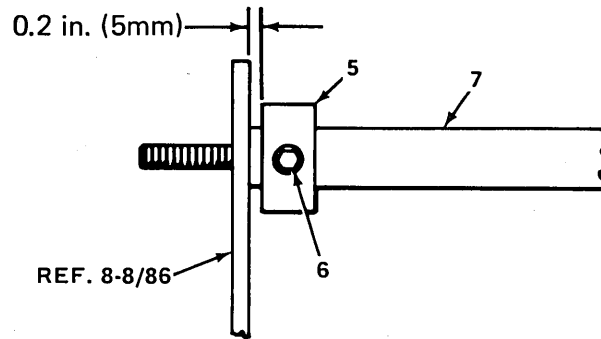

Figure 5-12. MAINTAINING 5/8-IN. (15.9 MM) NOMINAL PRINT MARGIN
1. Loosen lock-knob (16) at top of pin feed holder (11) and slide out of the way on paper feed drive shaft (7).
2. Using a 2 mm allen-wrench, loosen set-screw (6) on stopper (5) located at left end of printer on paper feed drive shaft (7).
3. Maintain 0.2 in. (5 mm) dimension between stopper and left chassis frame (Ref. Fig. 8-10/86). Tighten screw, (See Fig. 5-12).